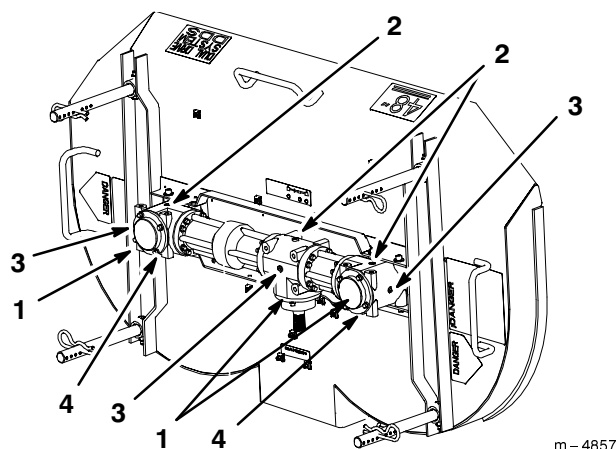

Figure 70
3. With deck raised, remove plug on the bottom side of the gearbox. Let fluid fully drain into a pan. (Fig. 70).
4. Reinstall the bottom plug into the gearbox. Use pipe thread sealant if needed (Fig. 70).
5. Remove the top plug to fill gearbox (Fig. 70).
7. Reinstall the top plug into the gearbox (Fig. 70).
3. Remove plug on the side of the gearbox. The fluid level must be up to side hole in gearbox (Fig. 70).
4. If needed, fill automatic transmission fluid (Dexron® III or equivalent) into top hole until it runs out the side hole in gearbox. It is full when it runs out the side hole (Fig. 70).
5. Reinstall the top and side plugs into gearbox using pipe sealant (Fig. 70).